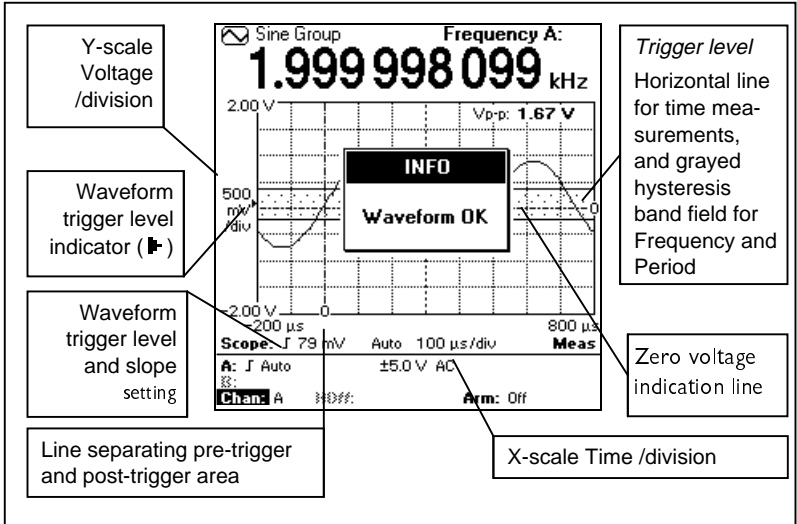

Figure 105 When you select a single channel measurement, only one trace is shown.
The trace starts at the vertical "0-line" (separating the pre- and post trigger areas), at the *Scope Trigger Level*. The trace normally starts upwards, on the positive slope like in Figure 105. For frequencies above 2kHz (HF sampling) pre-trigger information is shown, for lower frequencies this area will be empty.
6. Press  to move the cursor to the time/division field. Time/division is normally scaled automatically, as indicated by *Auto* in Figure 105.